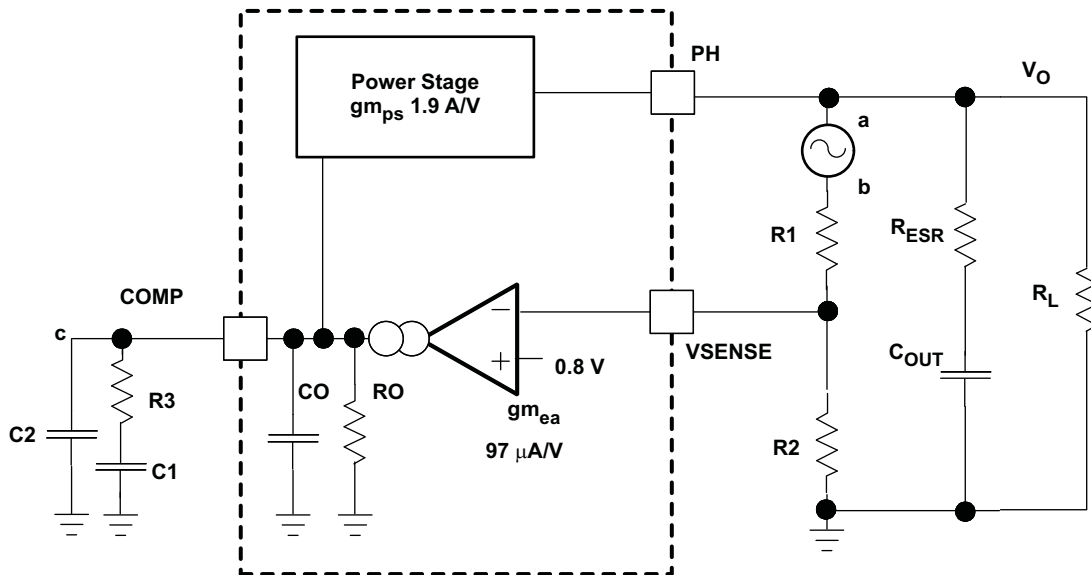
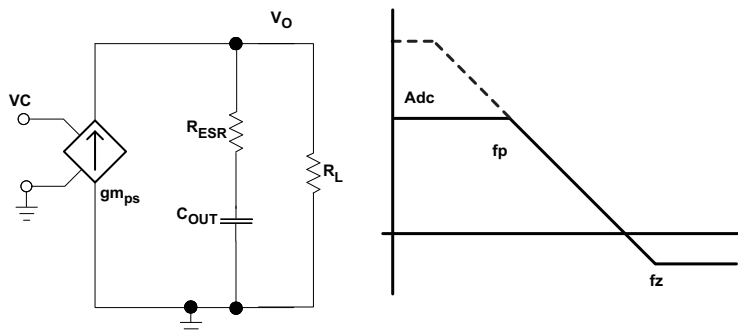

Figure 31. Small Signal Model for Loop Response
Figure 32. Simple Small Signal Model and Frequency Response for Peak Current Mode Control
**Figure 31** shows an equivalent model for the TPS54060 control loop which can be modeled in a circuit simulation program to check frequency response and dynamic load response. The error amplifier is a transconductance amplifier with a  $g_{m_{EA}}$  of 97  $\mu A/V$ . The error amplifier can be modeled using an ideal voltage controlled current source. The resistor  $R_o$  and capacitor  $C_o$  model the open loop gain and frequency response of the amplifier. The 1mV ac voltage source between the nodes a and b effectively breaks the control loop for the frequency response measurements. Plotting c/a shows the small signal response of the frequency compensation. Plotting a/b shows the small signal response of the overall loop. The dynamic loop response can be checked by replacing  $R_L$  with a current source with the appropriate load step amplitude and step rate in a time domain analysis. This equivalent model is only valid for continuous conduction mode designs.
Figure 32 describes a simple small signal model that can be used to understand how to design the frequency compensation. The TPS54060 power stage can be approximated to a voltage-controlled current source (duty cycle modulator) supplying current to the output capacitor and load resistor. The control to output transfer function is shown in Equation 3 and consists of a dc gain, one dominant pole, and one ESR zero. The quotient of the change in switch current and the change in COMP pin voltage (node c in Figure 31) is the power stage transconductance. The  $g_{m_{ps}}$  for the TPS54060 is 1.9A/V. The low-frequency gain of the power stage frequency response is the product of the transconductance and the load resistance as shown in Equation 4.
As the load current increases and decreases, the low-frequency gain decreases and increases, respectively. This variation with the load may seem problematic at first glance, but fortunately the dominant pole moves with the load current (see Equation 5). The combined effect is highlighted by the dashed line in the right half of Figure 32. As the load current decreases, the gain increases and the pole frequency lowers, keeping the 0-dB crossover frequency the same for the varying load conditions which makes it easier to design the frequency compensation. The type of output capacitor chosen determines whether the ESR zero has a profound effect on the frequency compensation design. Using high ESR aluminum electrolytic capacitors may reduce the number frequency compensation components needed to stabilize the overall loop because the phase margin increases from the ESR zero at the lower frequencies (see Equation 6).